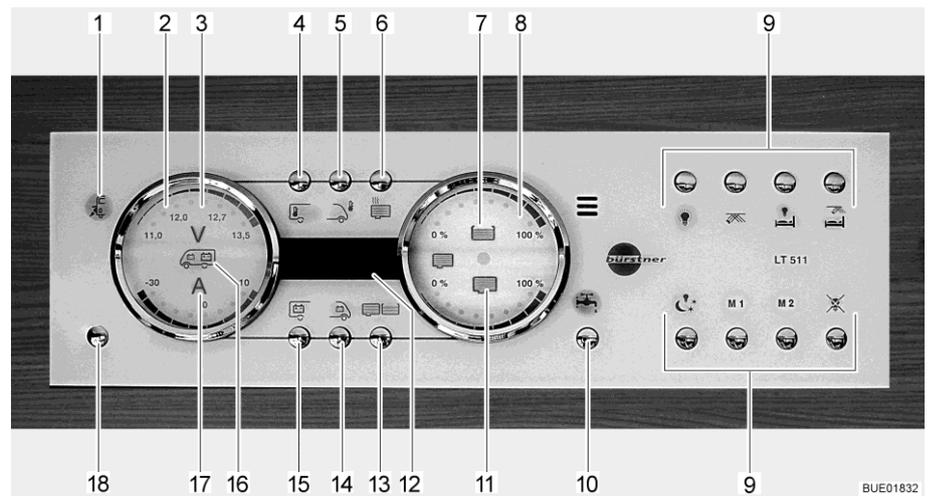

Fig. 120 Panel LT 511
The 230 V indicator lamp (Fig. 120,1) illuminates whenever line voltage is available at the transformer/rectifier input.
The 12 V main switch (Fig. 120,18) switches the panel and the 12 V power supply of the living area on and off.
Switching on: Briefly press the 12 V power supply button (Fig. 120,18). The 12 V living area power supply is switched on. The "12 V" indicator lights up.
- ▷ If, after switching on, the "11.0" LED of the volt indicator and the "V" volt symbol (Fig. 120,3) in the batteries gauge (Fig. 120,2) flash, the voltage of the living area battery is too low. Charge battery.
- ▷ If, after switching on, the "12 V" indicator and the "V" volt symbol (Fig. 120,3) flash three times, battery separation is activated. Deactivate battery separation.
Switching off: ■ Briefly press the 12 V power supply button (Fig. 120,18). The 12 V living area power supply is switched off. The "12 V power supply" indicator goes out.
■ Press button for living area battery (Fig. 120,15) and hold it down for approx. 10 seconds. The "V" volt symbol (Fig. 120,3) and the "12 V" indicator flash three times. The living area battery is disconnected from the 12 V power supply.
Deactivating battery separation (transformer/rectifier without battery cut-off switch): ■ Press the 12 V power supply button (Fig. 120,18) and hold it down for approx. 5 seconds. The "V" volt symbol (Fig. 120,3) and the "12 V" indicator flash three times. The living area battery is connected to the 12 V power supply. The indicator lights up after approx. 5 seconds.
- Press button for living area battery (Fig. 120,15). The "V" volt symbol (Fig. 120,3) lights up. The "A" ampere symbol (Fig. 120,17) lights up as either white or red depending on whether it is charging or discharging. The battery voltage and electricity of the living area battery are displayed via the LEDs in the gauge.
- Press button for starter battery (Fig. 120,14). The "V" volt symbol (Fig. 120,3) lights up. The battery voltage of the starter battery is displayed using the LEDs in the gauge.
- Press tanks button (Fig. 120,13). The water tank (Fig. 120,7) and waste water tank (Fig. 120,11) symbols light up. The fill levels of the water tank (upper scale) and of the waste water tank (lower scale) are indicated using the LEDs in the gauge.
Tank alarm The water tank symbol (Fig. 120,7) or waste water tank symbol (Fig. 120,11) flashes when the water tank is empty or the waste water tank is full.
The internal and external temperatures can be indicated using the digital display (Fig. 120,12).
Displays: ■ Press the button for the internal temperature (Fig. 120,4). The internal temperature is displayed.
■ Press external temperature button (Fig. 120,5). The external temperature is displayed.
The water pump can be turned on and off using the water pump button (Fig. 120,10).
Switching on: ■ Press the water pump button (Fig. 120,10). The symbol lights up.
Switching off: ■ Press the water pump button (Fig. 120,10). The symbol goes out.